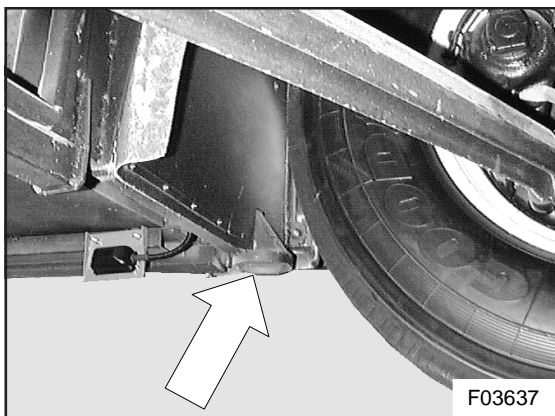

Figure 1: Left hand front chassis jacking pad
- Chassis jacking pads behind the left and right front wheels (see Figures 1 and 2).